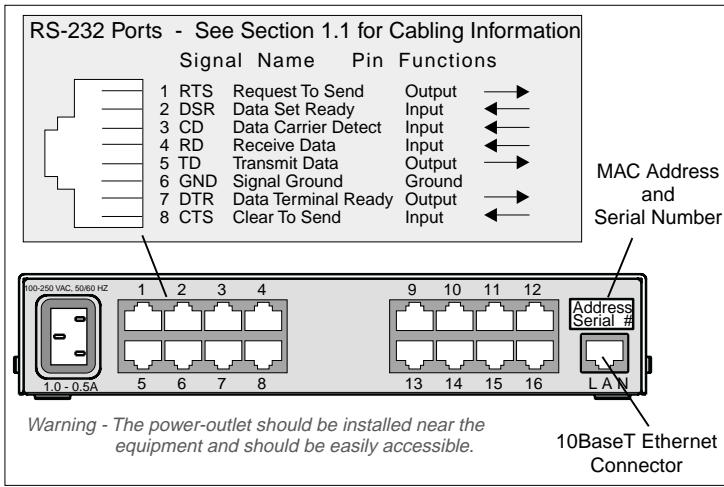

Figure 1.2 ESP Rear View And COM Port Pinouts
1. Record the MAC Address located on the label affixed to the back of the unit above the LAN connector socket (see Figure 1.2). This address will be used as a Unit ID to distinguish different ESP devices on the network.